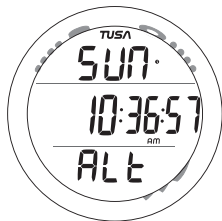

Fig. 7 - ALTERNATE TIME
**Watch Alternate Time** (Fig. 7), identified by the graphic Alt, set by Hour Differential, is the current Time at a remote travel location. Upon arrival at the location, Alternate Time can be interchanged with Main Time to make it the Local Default Time while visiting the travel location.